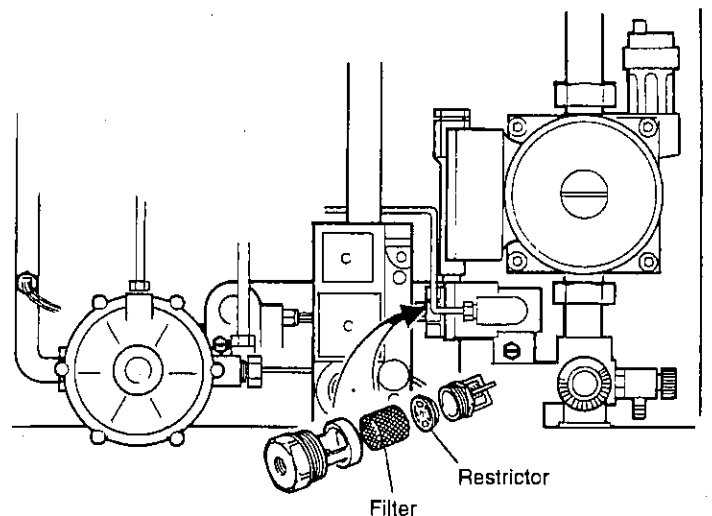

Fig. 33
8.31 DIFFERENTIAL PRESSURE SENSOR - Fig. 33